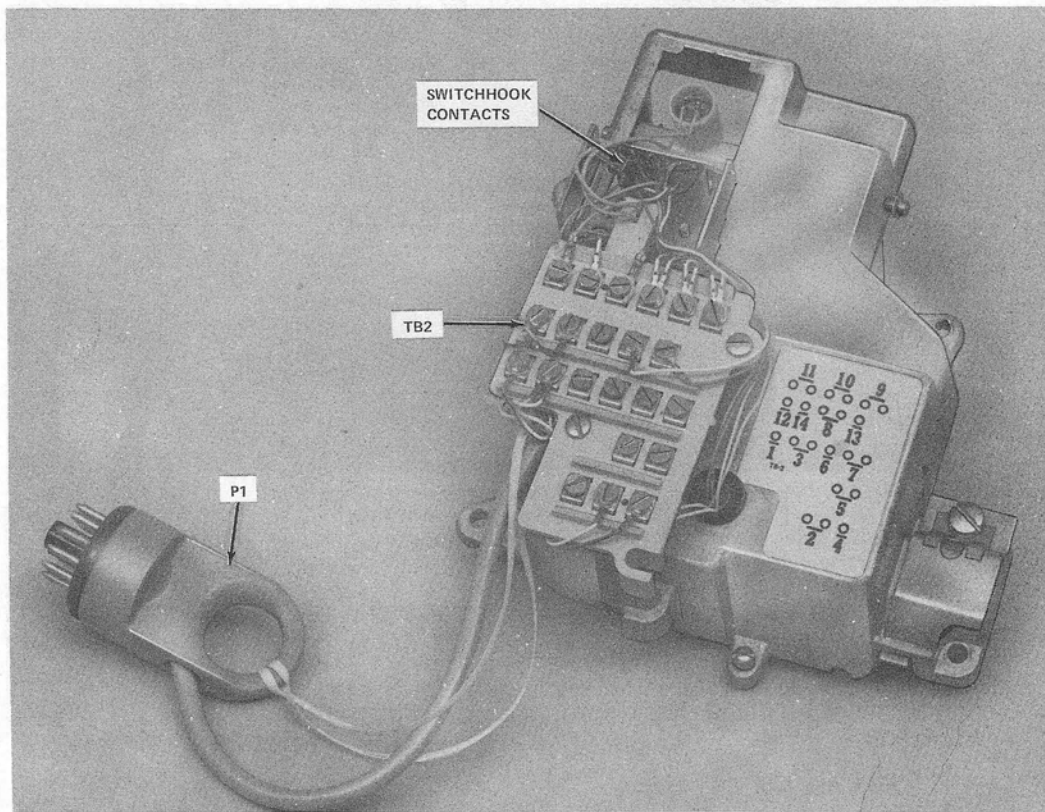

Fig. 7—Typical Coin Dial Unit
- (1) **B Relay**—The B relay contacts close during totalizer readout and place a capacitor across the speech circuit to prevent the customer from hearing coin signals.
- (2) **Coin Signal Oscillator**—Generates a dual frequency signal, controlled by totalizer readout indicating to the operator what value of coin has been deposited.
- (3) **A Relay**—Provides ground lifting in DTF mode and controls totalizer readout in CF mode.
**Dial and Housing Assembly (Fig. 7)**
2.13 The dial and housing assembly contains the switchhook contacts and rotary or TOUCH-TONE dial. The switchhook contacts are operated as the handset is lifted. Contacts SH1, SH2, and SH4 perform the same functions in both CF and DTF modes. SH3 differs as described in (3).